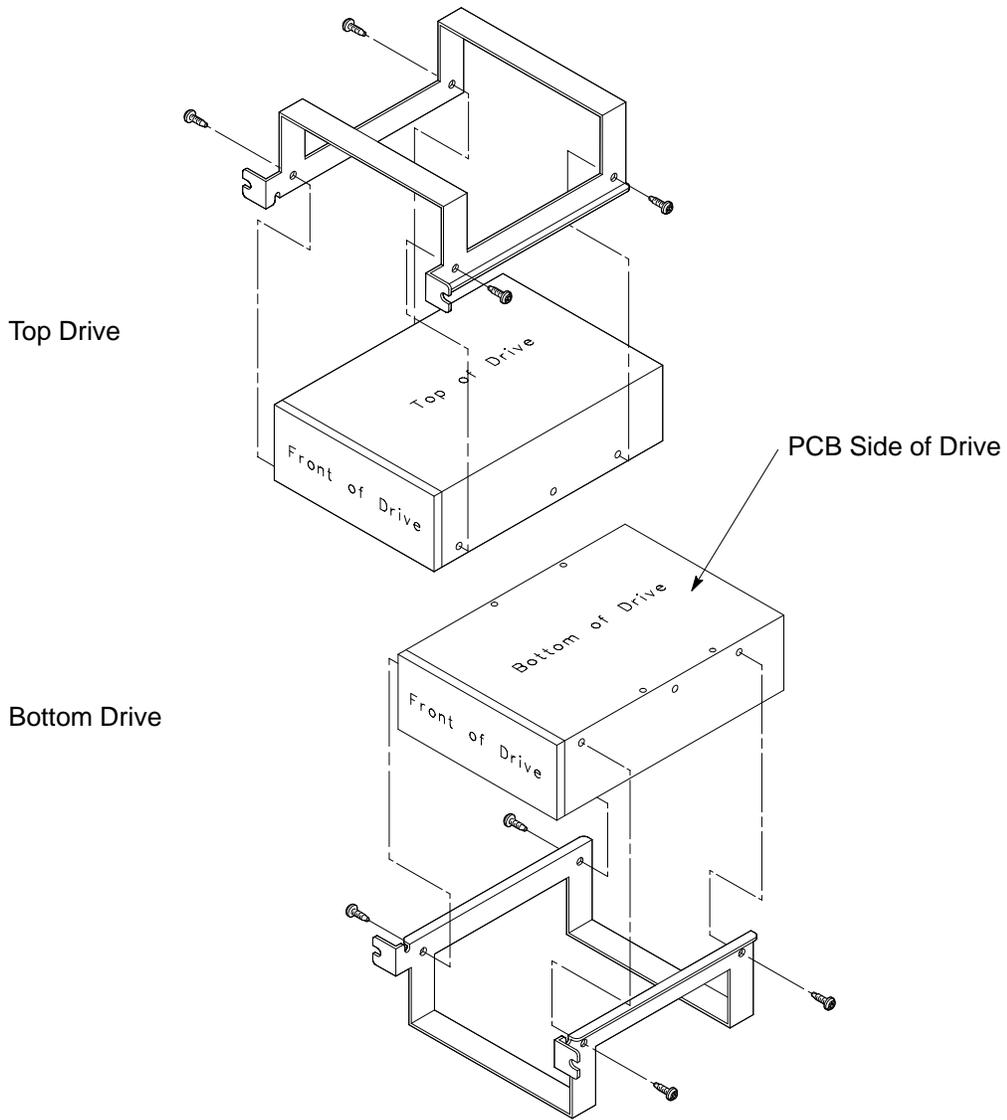

Figure B-17. Replacing Hard Drive Mounting Bracket and Drive Orientation
2. If you removed the disk drive mounting bracket from the disk drive, replace it now, making sure not to over-tighten the screws. Figure B-17 shows the orientation of the drive in the bracket for both drives and the position of the screws holding the drive bracket in place.